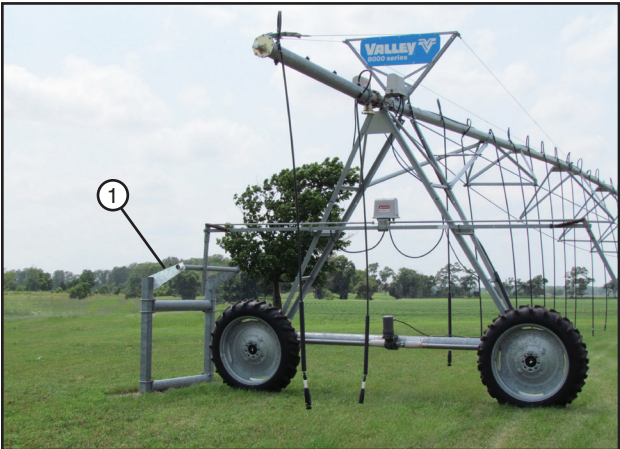

Figure 31-3 1. End of Field Stop Barricade
- PHYSICAL END OF FIELD STOP BARRICADES MUST BE INSTALLED ON ALL PART CIRCLE MACHINES. THE PHYSICAL BARRICADE SERVES AS A BACK UP IN CASE THE CIRCUITRY OF THE PIVOT MOUNTED AUTO REVERSE OPTION SHOULD EVER FAIL. SEE FIGURE 31-3.